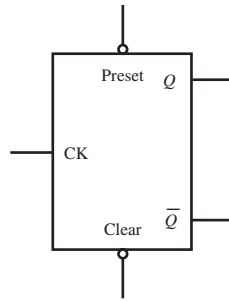

Figure 6.12 Preset and clear flip-flop functions.
Flip-flops usually also have preset and clear functions that instantaneously override any other inputs. They are called **asynchronous inputs**, because their effect may be asserted at any time. They are not triggered by a clock signal. The **preset** input is used to set or initialize the output *Q* of the flip-flop to high (1). The **clear** input is used to clear or reset the output *Q* of the flip-flop to low (0). The small inversion symbols shown at the asynchronous inputs in Figure 6.12 are typical of most devices and imply that the function is asserted when the asynchronous input signal is low. Such an input is referred to as an **active low** input. Both preset and clear should not be asserted simultaneously. Either of these inputs can be used to define the state of a flip-flop after power-up; otherwise, at power-up the output of a flip-flop may be uncertain or default to some manufacturer-specified value.